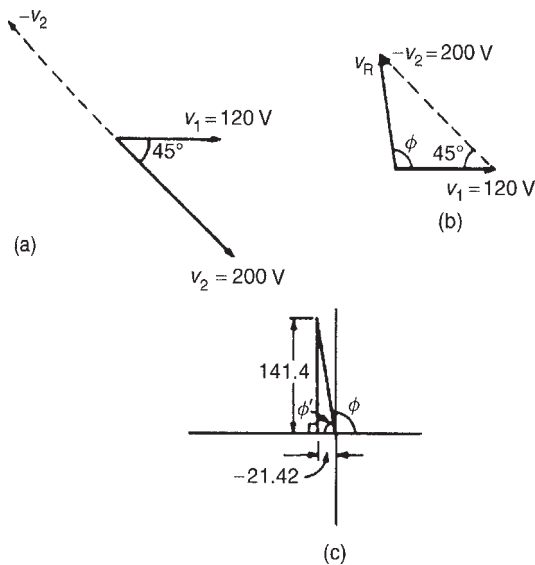

Figure 14.14
- (b) The relative positions of v_1 and v_2 are shown at time $t=0$ as phasors in Fig. 14.14(a). Since the resultant of $v_1 - v_2$ is required, $-v_2$ is drawn in the opposite direction to $+v_2$ and is shown by the broken line in Fig. 14.14(a). The phasor diagram with the resultant is shown in Fig. 14.14(b) where $-v_2$ is added phasorially to v_1 .
From Fig. 14.14(c), resultant